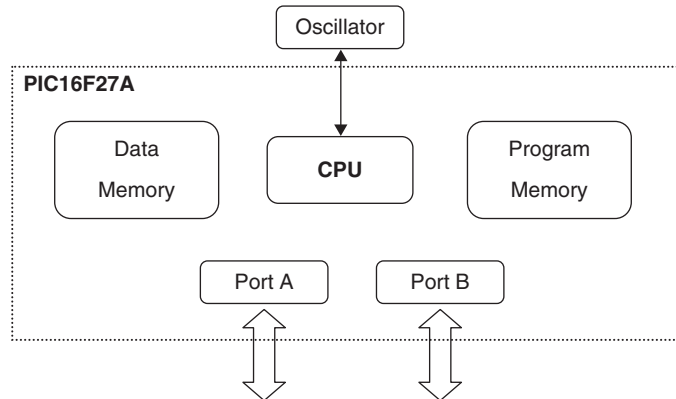

Figure 1.1 Main elements of the PIC16F27A microcontroller
The PIC blocks mentioned above communicate through a complex system of communication lines called *buses*. The *data buses* are used for the transfer of data through the system and *address buses* communicate addresses of data and program instructions to be accessed during program execution. Various other communication lines exist in the PIC and those are usually referred to as *control bus* lines. Note that since two separate memories exist in the PIC, both data and address bus systems are doubled, i.e. PIC16F27A (Figure 1.1) has a data memory (DM) address bus as well as program memory (PM) address bus. Similarly, this processor also has a DM data bus and PM data bus.